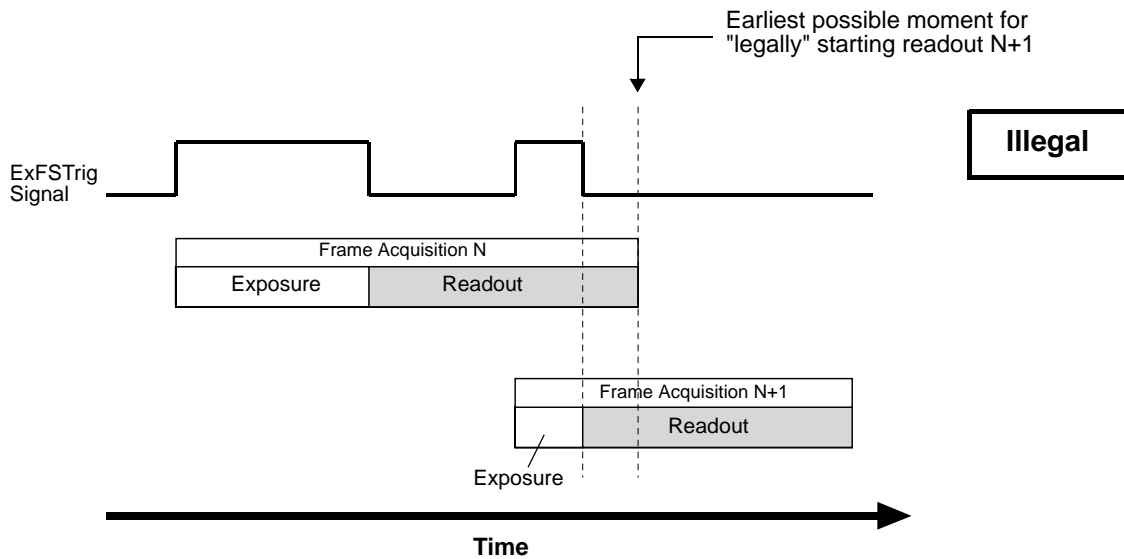
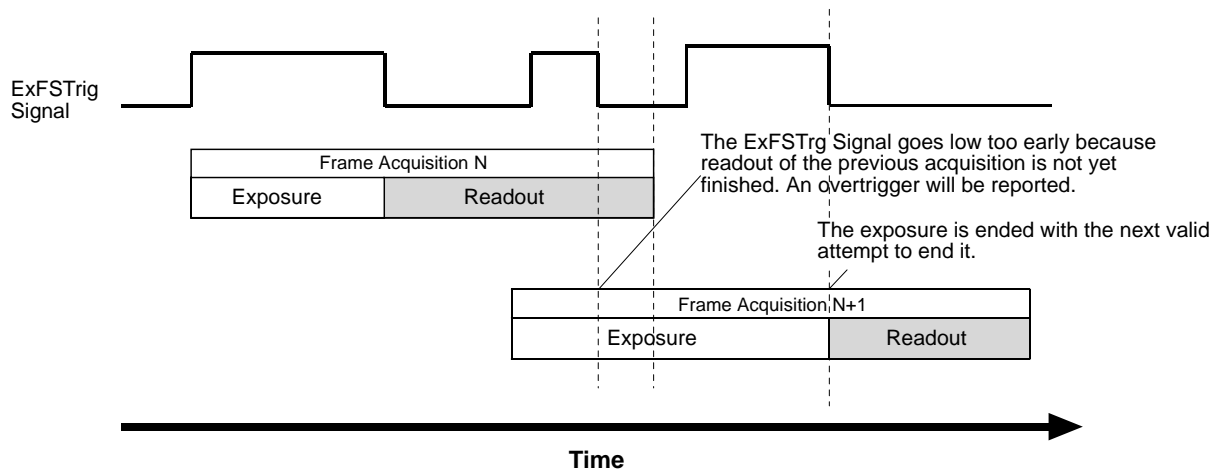

Fig. 26: Exposure N+1 Illegally Ends Before Readout of the Preceding Frame Acquisition N Has Ended; Applies to Trigger Width Exposure Mode Only
Fig. 27: Extension of Exposure N+1 After the Illegal Attempt of Ending It Too Early; Applies to Trigger Width Exposure Mode Only
Certain attempts of triggering overlapped frame acquisition are illegal and do not result in frame acquisitions: When a frame start trigger signal attempts an illegal frame acquisition the trigger signal will be ignored and, accordingly, no frame acquisition will be performed. In addition, the trigger signal will be reported as an overtrigger (see also Section 6.3.5.1 on page 70 and Section 6.3.6.1 on page 74). Illegal triggering and impossible overlaps are shown in Fig. 25 on page 90 and Fig. 26 on page 90.
The exposure overhead (see Fig. 25 on page 90) is part of every exposure process. For simplicity, it is omitted from the other figures illustrating exposure and readout (see, for example, Fig. 26 on page 90).
- The frame start trigger goes low to end the exposure for frame acquisition N+1 before readout for acquisition N has ended (premature exposure end; see Fig. 26 on page 90).
When the frame start trigger has illegally gone low to end the exposure for frame acquisition N+1 before readout for acquisition N has ended (in trigger width exposure mode; see Fig. 26), the camera will behave as shown in Fig. 27: The camera will extend the exposure and end it when the next valid trigger for ending exposure occurs.